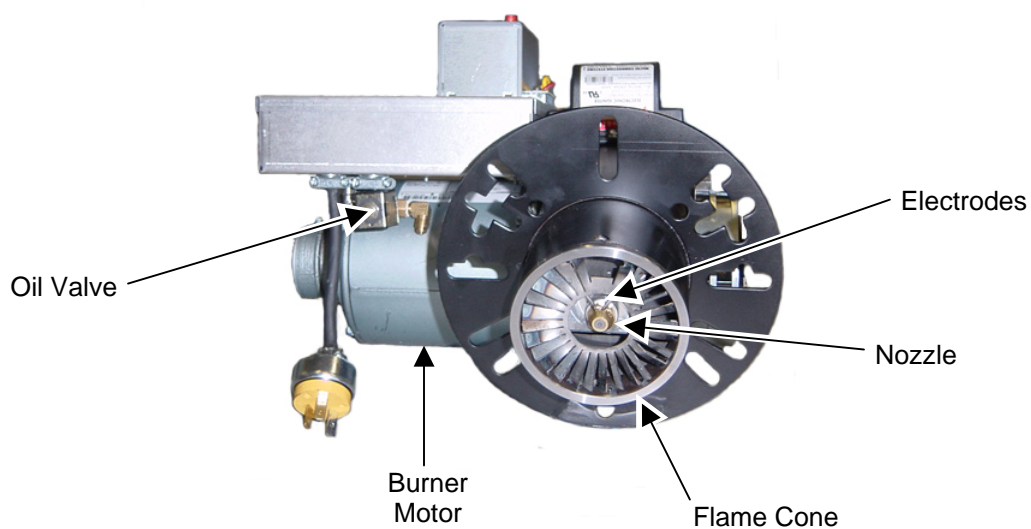
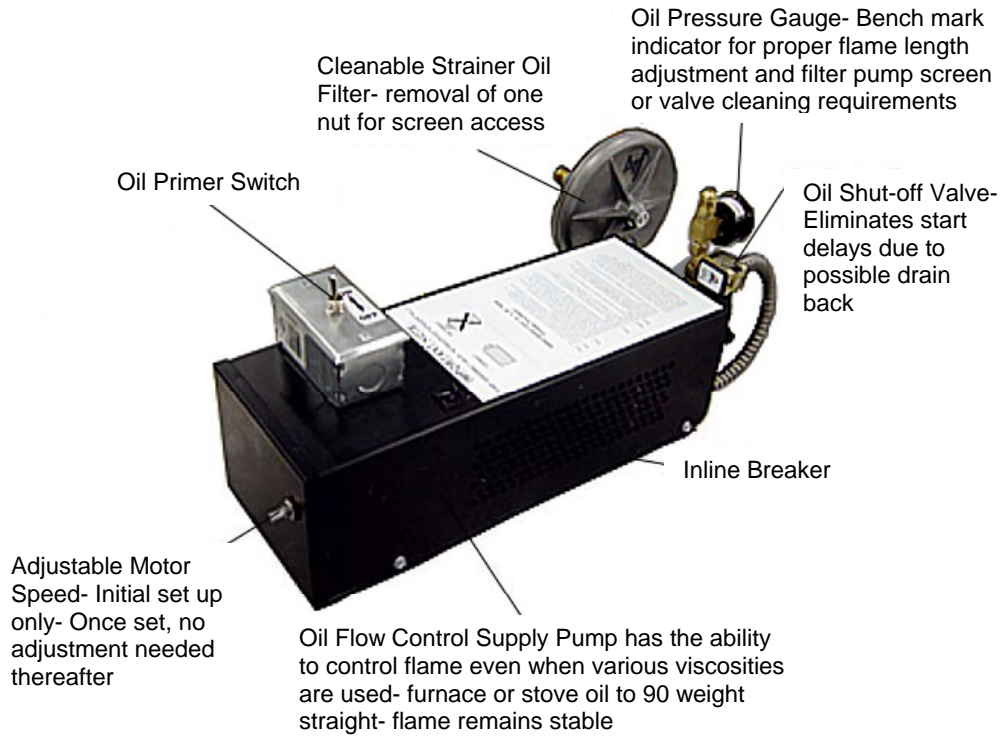

**Figure 3** – Oil Burner (Back View Closed)
**Figure 5** – Oil Burner (Front View)
3. Wire low voltage thermostat into "T" marked terminals on oil primary control on burner. (Box on burner gun assembly with red reset button). (figure 3).
compressed air from the air compressor (figure 3) is mixed with the oil prior to spraying out the nozzle similar to fuel injection, by breaking up the oil droplets into a finer mist or spray (atomization). Electrodes mounted just above the nozzle (figure 5) provides continuous electrical arc across electrode to electrode igniting the fine oil mist as it sprays out of the nozzle. Once ignited the flame is forced into a swirl caused by the burners blower and specially designed flame cone (figure 5) providing a very efficient and thorough burn of the waste oil.
- **Igniter Transformer:** (figure 3) Supplies high voltage to the electrodes generating electrical arc igniting the oil.
- **Oil Valve:** (figure 5) energizes when burner is running and de-energizes when burner is not running eliminating bleed back of oil out of the Pre-heater block.
- **Air Band:** (figure 3) Adjusts amount of air introduced into the combustion chamber. Air band is adjusted at the factory for optimum performance, approx. ½ to ¾ inch open. **NO FIELD ADJUSTMENT REQUIRED** unless in high altitudes application where minor adjustment may be required.
- **Oil Primary Control:** (figure 3) Controls the oil burner ignition. Checks for flame in the combustion chamber, if no flame is detected within 45 seconds, the oil primary will shutdown the oil burner. To restart the unit, reset the red button on the oil primary.
- **Air Pressure Gauge:** (figure 3) Displays air pressure supplied by onboard air compressor.
- **Air Compressor:** (figure 3) Supplies air used within pre-heater block to aid in atomization of the oil.
- **Electrodes:** (figure 5) Provides continuous high voltage electrical arc from electrode to electrode igniting the waste oil as it is being sprayed out of the nozzle.
- **Nozzle:** (figure 5) Low pressure nozzle for oil spray pattern.
- **Flame Cone:** (figure 5) Specially engineered flame cone forces the flame into a swirl pattern improving the burn thoroughness.
- **Burner Motor:** (figure 5) Multitask motor turns the burner blower and integrated air compressor.
- **Air Pressure Adjuster:** (figure 3) Adjusts the air pressure going to the pre-heater block. Should be adjusted between 12 PSI and 13PSI as indicated on the Air Pressure Gauge on the burner for thorough burn of the waste oil.
- **Oil Pressure Gauge:** (figure 3) Displays oil pressure at the burner. Adjust flame length in the heater combustion chamber viewed through the inspection port located directly above the burner gun assembly by increasing CW or decreasing CCW the adjuster located on the oil delivery pump (figure 7). The adjuster increases or decreases the pump motor RPM which increases or decreases the delivery of fuel to the burner. When you increase or decrease the fuel to the burner you will notice the flame length will increase or decrease. **Adjust flame length** so flame is just slightly less than halfway down main combustion chamber tube.
- **Power Indicator:** (figure 3) Indicates when power is present at the burner.
- **Run Indicator:** (figure 3) Indicates that the burner is ready for operation after the initial pre-heat time of approx. 5 minutes from initial power up.
4. Making sure the thermostat is turned off, apply power to the burner. Switch burner main power switch to ON position. After allowing the oil pre-heater time to establish temperature setpoint, approximately 5 minutes. Jump the "T" terminals on the Oil Primary Control (figure 3). Once the burner is running, temporarily jump the "F" terminals on the Oil Primary. This will allow the burner to run during the pump priming process.
7. Combustion air band (figure 3) should be open approximately 1/2" or until flame is clear yellow, not orange. Opening the air band too far may cause delayed in starting or even prevent the flame from starting.
--- Swing out burner assembly door and clean flame cone. (figure 5 and figure 8).
--- Replace nozzle every 3-5 years depending on usage (figure 5, 9, 11). Will lose efficiency due to erosion. This can be accessed by swinging burner door open. (figure 8)
Electrodes are adjusted at time of manufacture. However, they should be checked periodically and at time of installation to be sure they are set as noted in the following dimensional drawing. Swing burner door back for inspection. (figure 5, 10, 11)